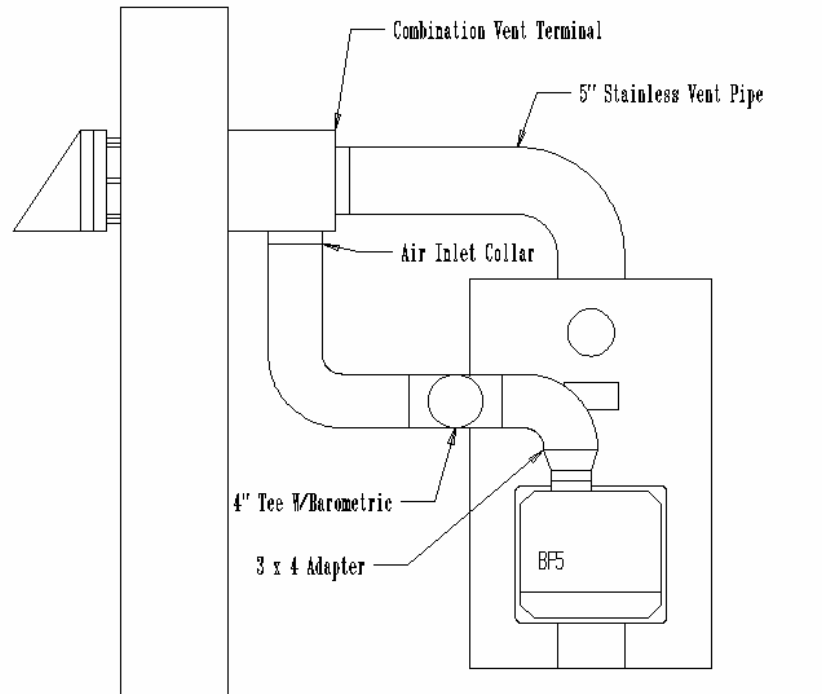

Figure 6
- a) Install the air inlet collar to the vent hood using the four screws and washers supplied. A bead of high temperature silicone caulking is to be placed between the collar and the vent hood to ensure proper seal. See Figure 6.